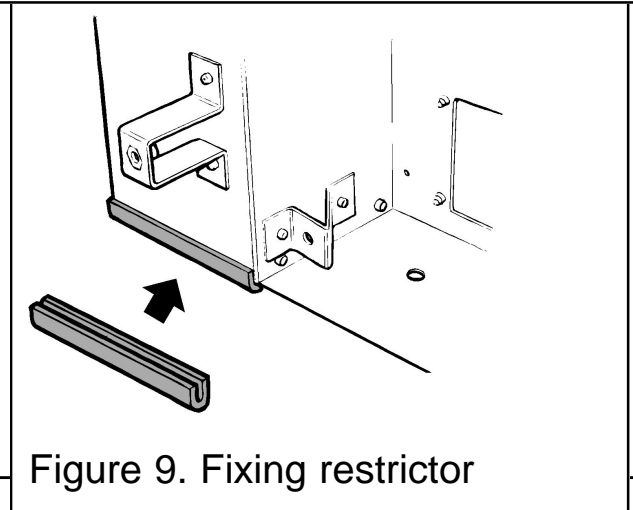

Figure 9. Fixing restrictor
3. Fit the two small 'U' section seals to the bottom edges of the convection box side flanges (See figure 9).